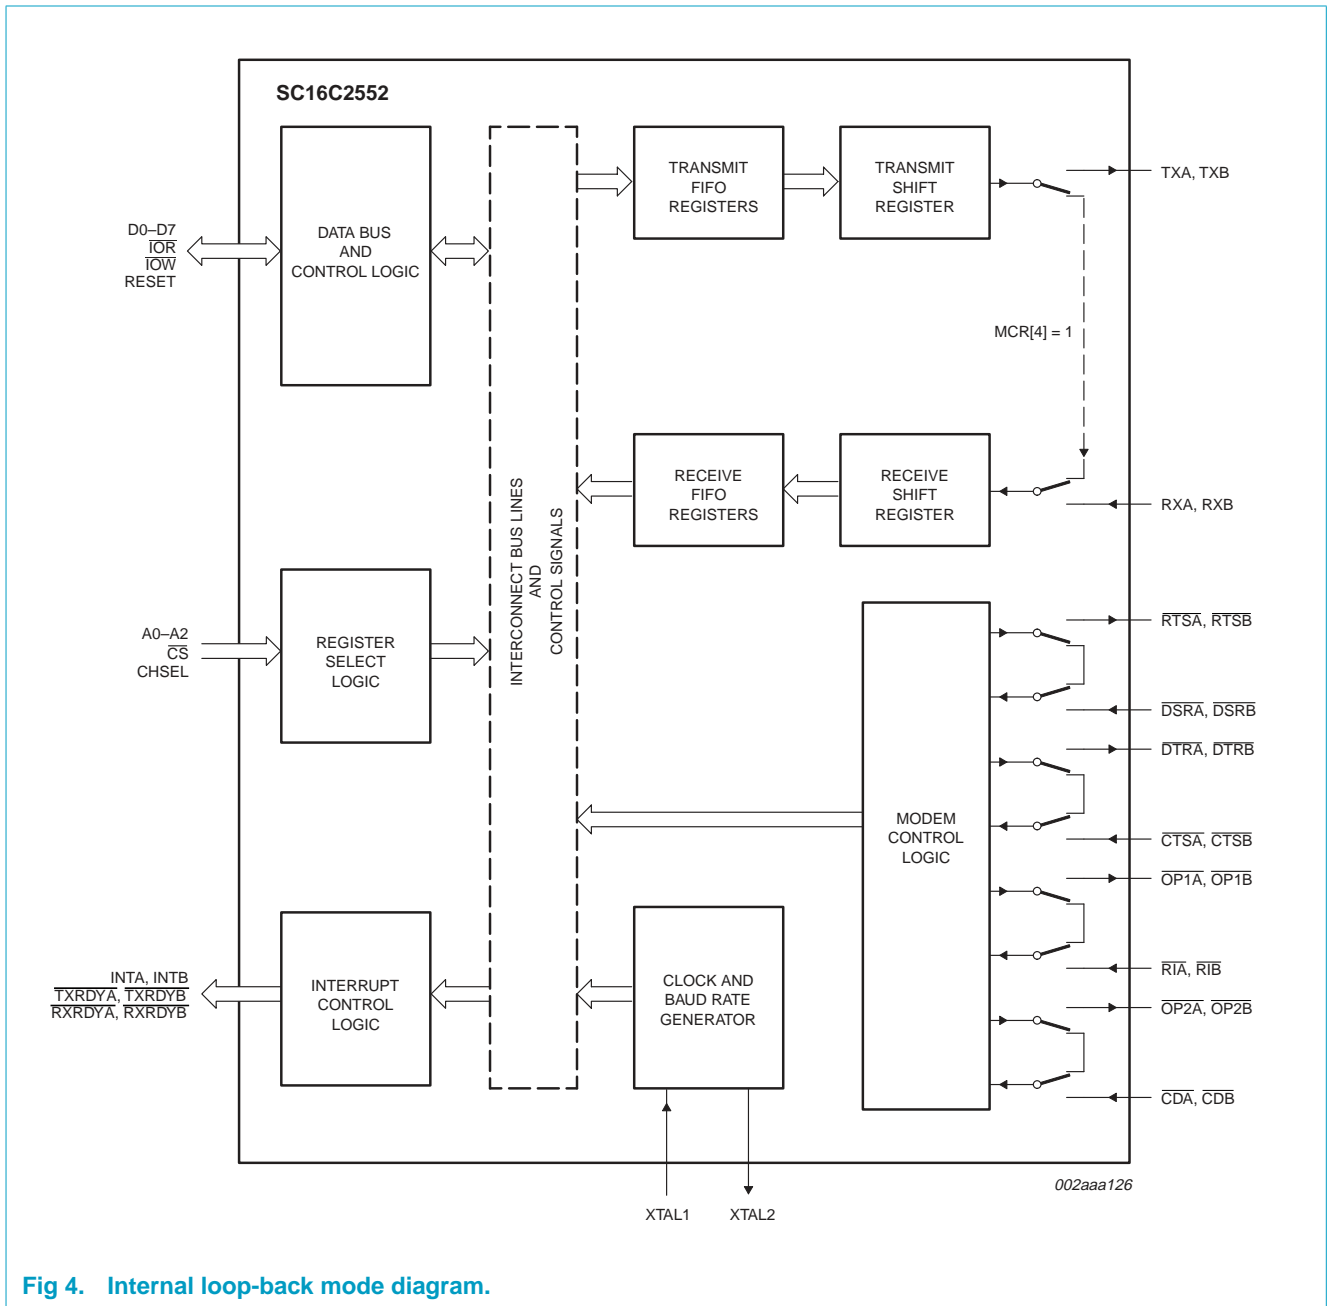

Fig 4. Internal loop-back mode diagram.
The internal loop-back capability allows on-board diagnostics. In the loop-back mode, the normal modem interface pins are disconnected and reconfigured for loop-back internally. MCR[0-3] register bits are used for controlling loop-back diagnostic testing. In the loop-back mode, INT enable and MCR[2] in the MCR register (bits 2-3) control the modem \overline{RI} and \overline{CD} inputs, respectively. MCR signals \overline{DTR} and \overline{RTS} (bits 0-1) are used to control the modem \overline{CTS} and \overline{DSR} inputs, respectively. The transmitter output (TX) and the receiver input (RX) are disconnected from their associated interface pins, and instead are connected together internally (see Figure 4). The \overline{CTS} , \overline{DSR} , \overline{CD} , and \overline{RI} are disconnected from their normal modem control inputs pins, and instead are connected internally to \overline{DTR} , \overline{RTS} , INT enable, and MCR[2]. Loop-back test data is entered into the transmit holding register via the user data bus interface, D0-D7. The transmit UART serializes the data and passes the serial data to the receive UART via the internal loop-back connection. The receive UART converts the serial data back into parallel data that is then made available at the user data interface D0-D7. The user optionally compares the received data to the initial transmitted data for verifying error-free operation of the UART TX/RX circuits.